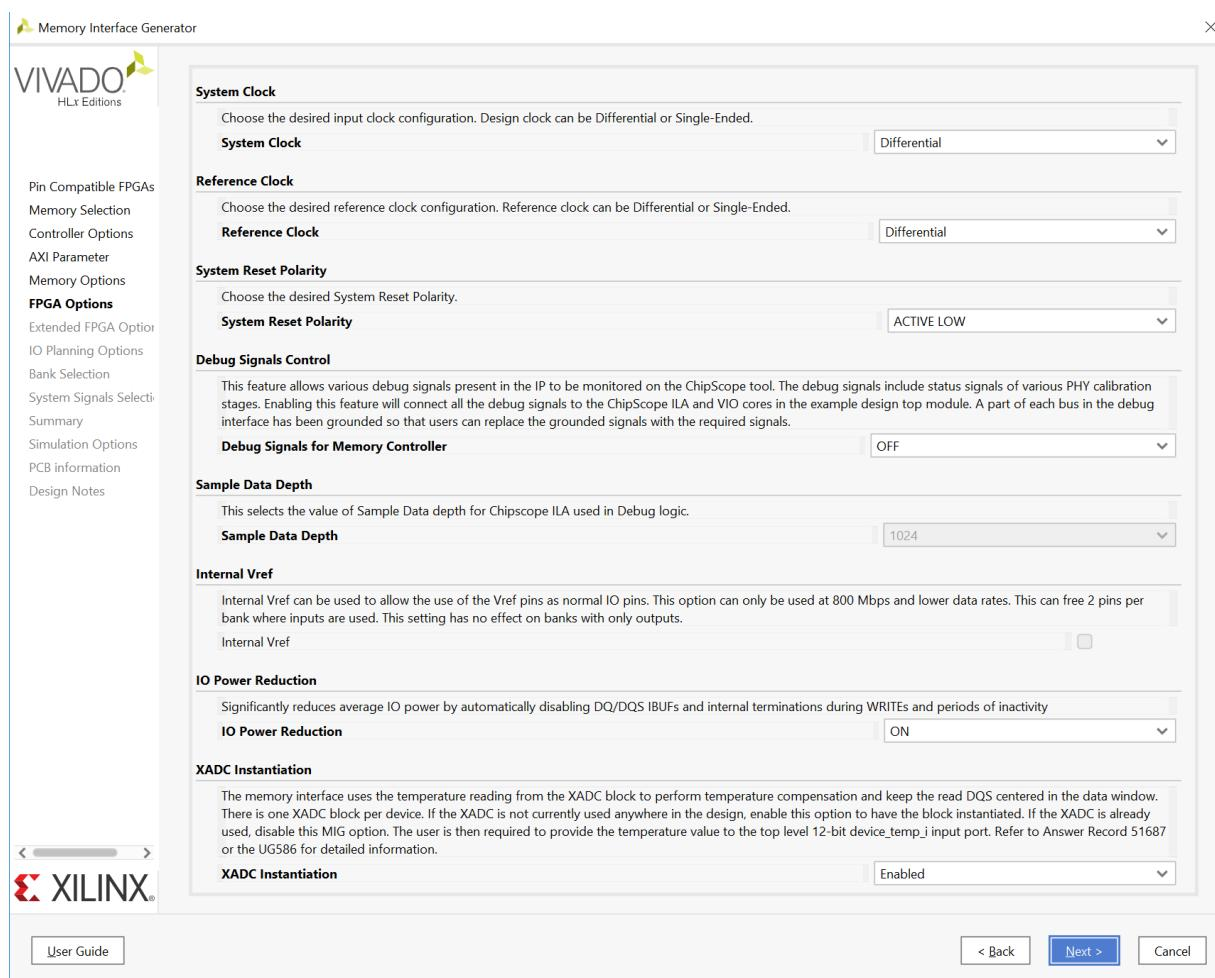

Figure 1-22: **FPGA Options**
Figure 1-22 shows the **FPGA Options** page.
- **sys_clk** – This is the system clock input for the memory interface and is typically connected to a low-jitter external clock source. Either a single input or a differential pair can be selected based on the **System Clock** selection in the **FPGA Options** page (Figure 1-22). The **sys_clk** input must be in the same column as the memory interface. If this pin is connected in the same banks as the memory interface, the MIG tool selects an I/O standard compatible with the interface, such as DIFF_SSTL15 or SSTL15. If **sys_clk** is not connected in a memory interface bank, the MIG tool selects an appropriate standard such as LVCMOS18 or LVDS. The XDC can be modified as desired after generation.
- **clk_ref** – This is the reference frequency input for the IDELAY control. The **clk_ref** input can be generated internally or connected to an external source. A single input or a differential pair can be selected based on the **System Clock** selection in the **FPGA Options** page (Figure 1-22). The I/O standard is selected in a similar way as **sys_clk**.
- **sys_rst** – This is the asynchronous system reset input that can be generated internally or driven from a pin. The MIG tool selects an appropriate I/O standard for the input such as LVCMOS18 and LVCMOS25 for HP and HR banks, respectively. The default polarity of **sys_rst** pin is active-Low. The polarity of **sys_rst** pin varies based on the **System Reset Polarity** option chosen in **FPGA Options** page (Figure 1-22).